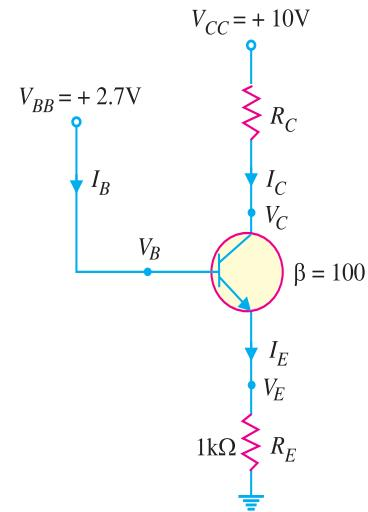

Fig. 8.58
**Example 8.36.** Determine the state of the transistor in Fig. 8.58 for the following values of collector resistor :